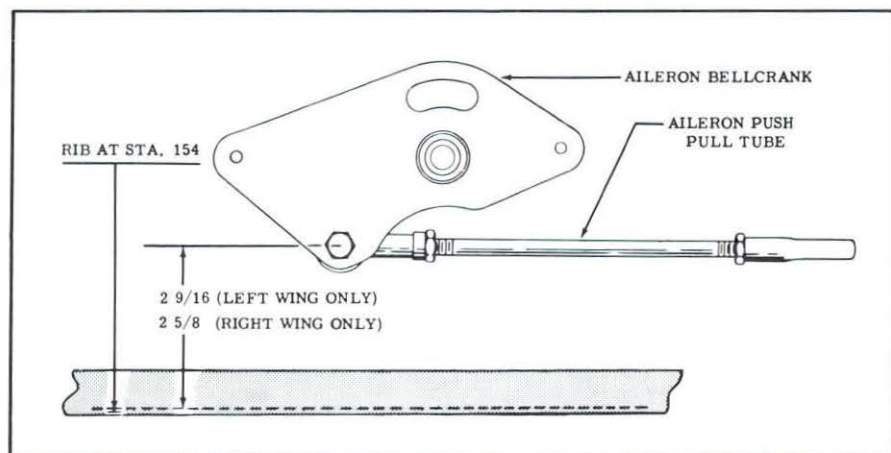

Figure 16. Aileron Bellcrank Adjustment
- (1) Place control wheels in neutral position and place a neutral bar across the top of both wheels, using tape or a clamp to secure them. Install chain over sprockets, leaving approximately nine links inboard of the chain guard on each side of the turnbuckle.
- (2) String cables back through system.
- (3) The ailerons on the Model 175
- are restricted in travel by a feature built into the bellcranks. Stops in the bellcrank allow a total travel of 35° . In rigging the ailerons, it is important that the bellcranks are neutralized. Connect the cables and adjust bellcrank to a position as shown in figure 16. Cable tension should be 20 to 40 pounds with the control wheels in the full-forward position. This position should be maintained in checking the tension.
- (4) Adjust ailerons to neutral position, by reference to the wing flaps. This adjustment is made by disconnecting the aileron push-pull tube from the bellcrank, and making adjustment on the rod end at the aileron.
- (5) Check travel which should be 20° up and 15° down, with a